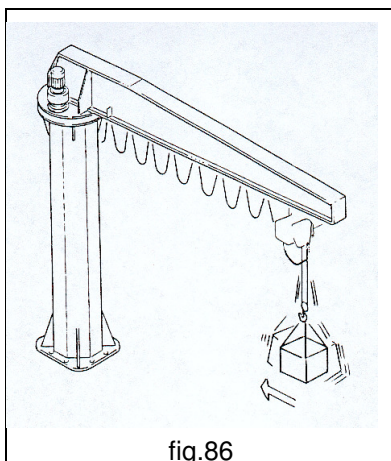

fig.86
- **NEVER** allow the load or the hook to swing during translation or rotation (fig.86).